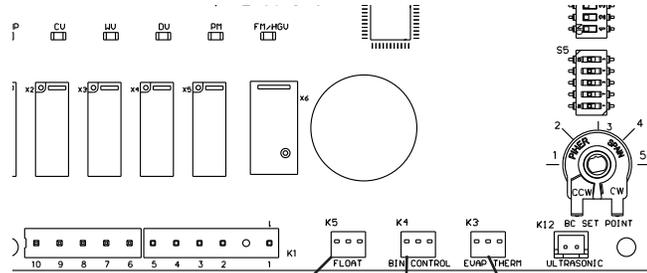

Fig. 2 K5 Float Switch K4 Open K3 Thermistor
- 5) Check CB control connectors K3, K4, K5, and K12 for correct VDC per table below. See Fig. 2.